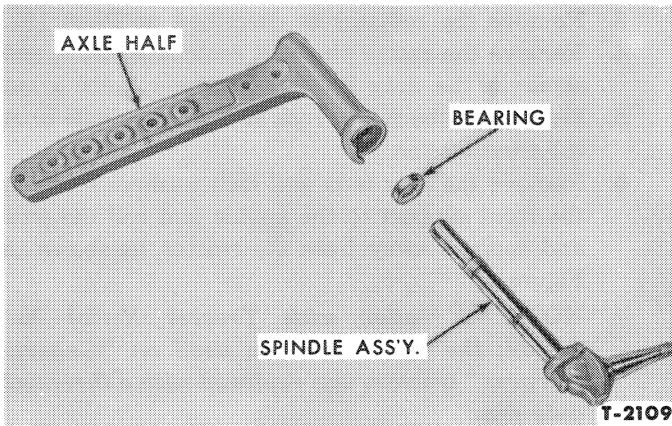

Figure 4—Axle Half—Disassembled View
1. Remove the Woodruff key and seal, and pull the spindle assembly from the axle half, Figure 4.